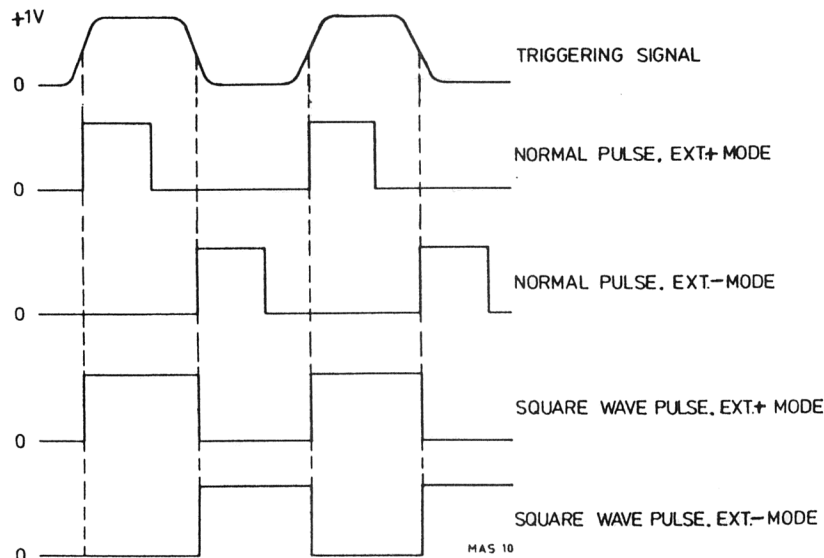

Fig. VI-14 External triggering PM 5704
- Set duration to 10 μ s. Refer to fig. VI-14.
- Observe output pulses having same repetition time as the triggering signal but a pulse duration as set with the DURATION controls. Fig. VI-14.
- Note that repetition time and duration are determined by the triggering signal. Refer to fig. VI-14.